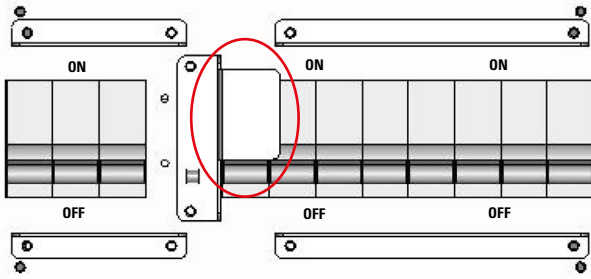

Fig. 58. Mechanical lock of the UPS maintenance bypass switch.
3. Remove the mechanical lock of the UPS manual bypass switch (Q5) (only for tower format devices): unscrew the screws provided and remove the metal cover (see Fig. 58).
10. Replace the mechanical lock of the UPS manual bypass switch (only for tower format devices): screw the metal cover in using the screws provided (see Fig. 58).